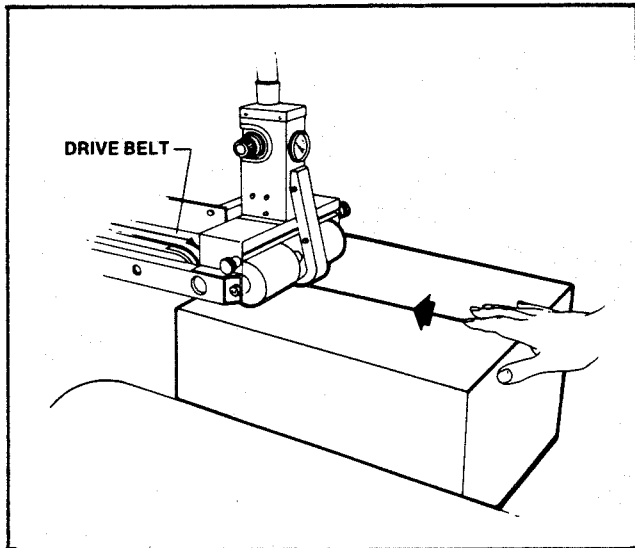

Figure 18 - Drive Belts
3. Once the box is pushed under the top taping head, the top taping head valve lever is released causing the top taping head to descend onto the box top, as shown in Figure 18, allowing the drive belts to convey the box through the top and bottom taping heads for application of the tape seals.